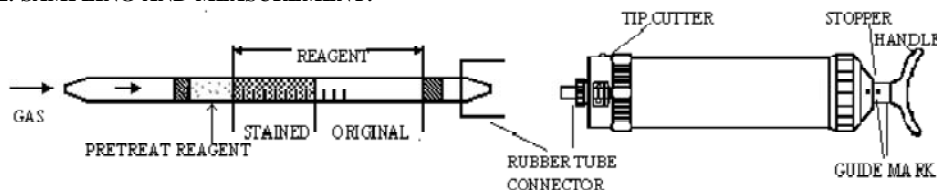

Fig.1
- ② Insert the detector tube into aspirating pump securely as shown in Fig.1. (Arrow mark shall point to the pump.)
- ③ Align the guide marks on the shaft and stopper of the aspirating pump.
- ④ Pull the pump handle at full stroke until it locks and wait for 1.5 minutes or until the completion of sampling is confirmed with the flow indicator of the pump (See descriptions about the flow indicator in the instructions of the pump).
- ⑤ On completion of sampling, read the scale at the maximum point of the stained layer.